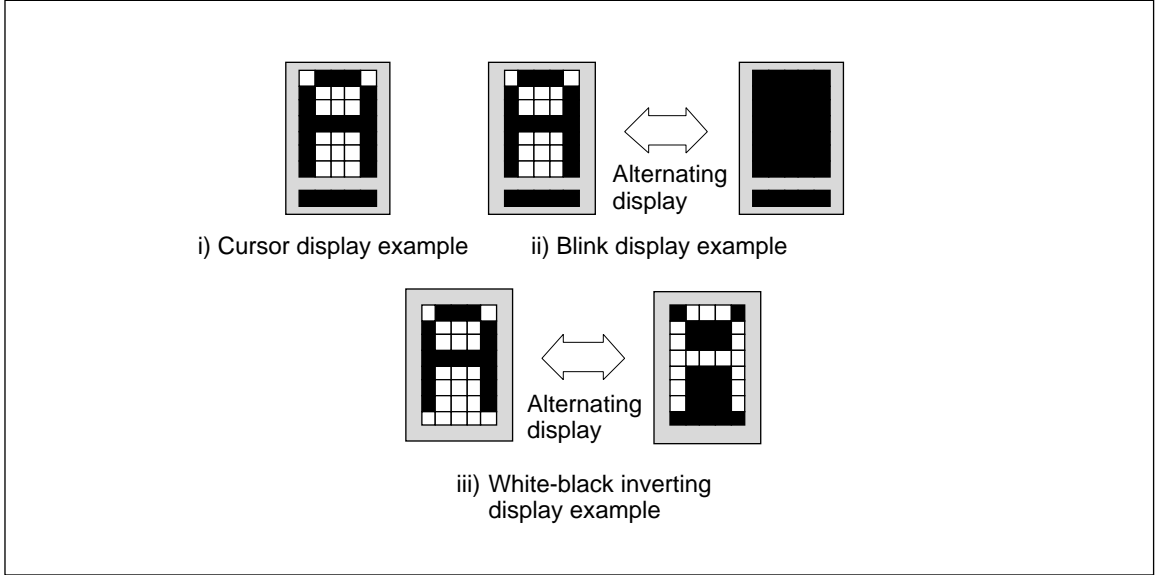

Figure 14 Cursor Blink Width Control
**B:** The character indicated by the cursor blinks when B is 1 (figure 14). The blinking is displayed as switching between all blank dots and displayed characters at a speed of 370-ms intervals when  $f_{cp}$  or  $f_{OSC}$  is 270 kHz. The cursor and blinking can be set to display simultaneously. (The blinking frequency changes according to  $f_{OSC}$  or the reciprocal of  $f_{cp}$ . For example, when  $f_{cp}$  is 300 kHz,  $370 \times 270/300 = 333$  ms.)